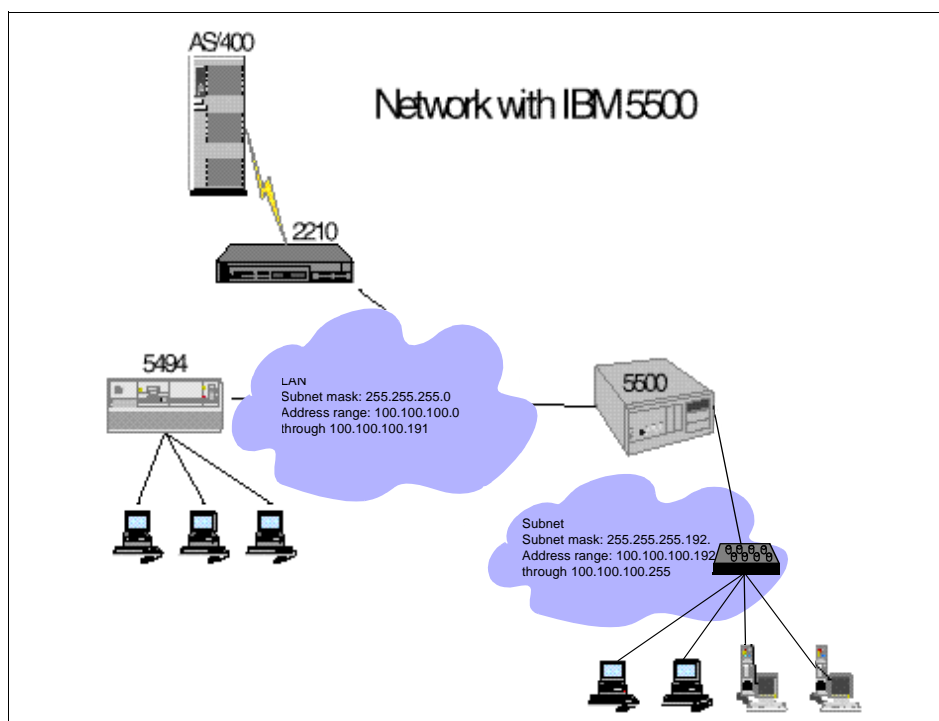

Figure 155. 5500 Subnet Example
- Original network uses subnet mask 255.255.255.0 and is assigned addresses 100.100.100.0 through 100.100.100.255 (See Figure 155)